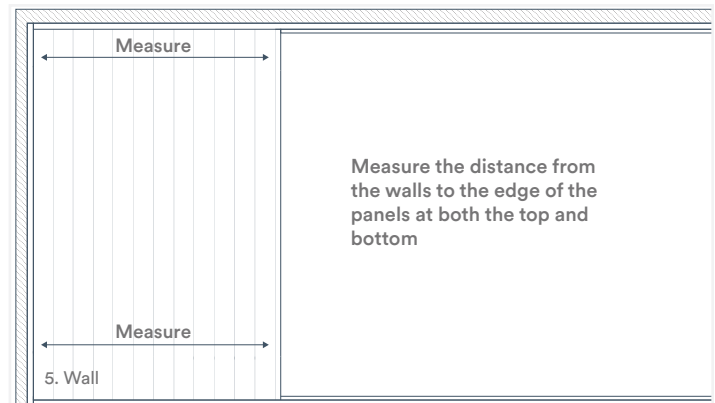

Fig. 10
8. Lift the panel into position and ensure it is parallel to the outside wall before fastening. To do this, measure the distance from the wall to the edge of your panels at both the top and bottom of the panel. If the measurements are uneven, you will need to correct the positioning of your board (Fig 10).